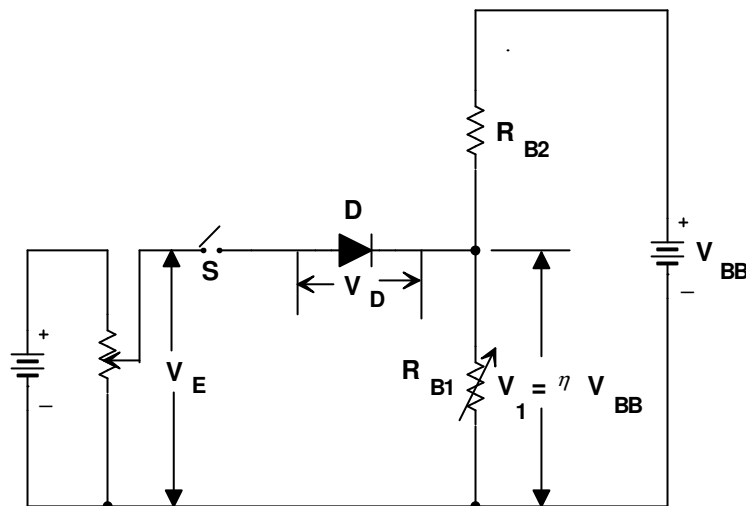

Fig. 45.2
**Working:** Make the circuit arrangement as shown in fig.45.2. Normally,  $B_2$  is kept positive w.r.t  $B_1$ . A variable positive voltage is supplied to the emitter through a switch S.